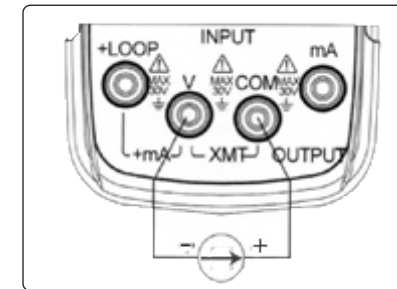

Figure 5-3
- 1) Insert one end of the test lead into the mA jack of the Instrument (INPUT) terminal and connect the other end to the output of the user's device as shown in Figure 5-3;